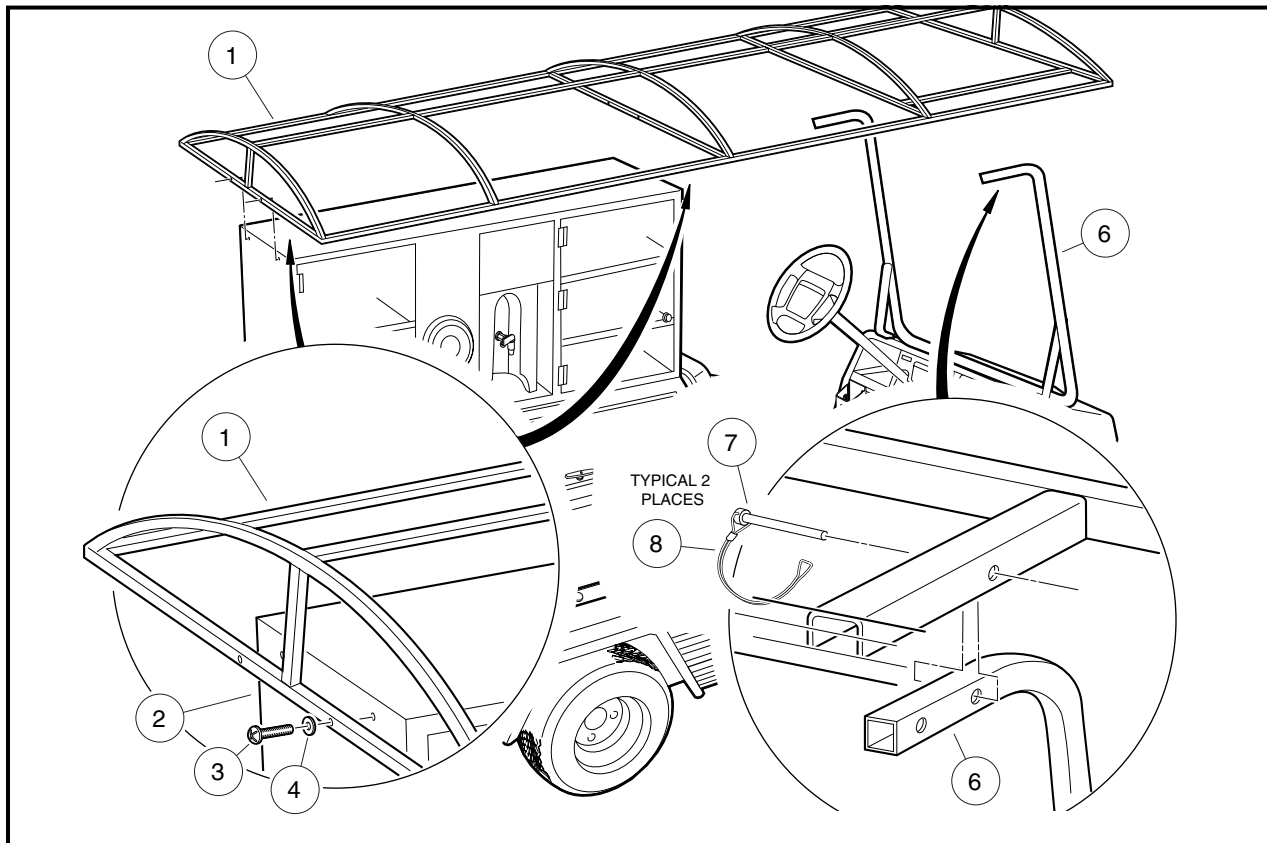

Figure 5 Canopy Frame Installation
2. With the aid of an assistant, position the canopy frame (1) so that the cross tubes with pre-drilled holes align with the nut inserts in the front and rear of the upper cabinet (**Figure 5**).
3. Secure the canopy frame (1) to the upper cabinet (2) using four 1/4-20 x 1-1/2 phillips pan-head screws with patch (3) and stainless steel flat washers (4) (**Figure 5**). Tighten screws to 50 in-lb (5.6 N-m). **See following CAUTION.**
4. Adjust the windshield frame legs so that the holes in the windshield frame (6) align with the holes in the channels. Insert one retaining pin (7) in each side and place the retaining wires (8) over the ends of the pins (**Figure 5**).